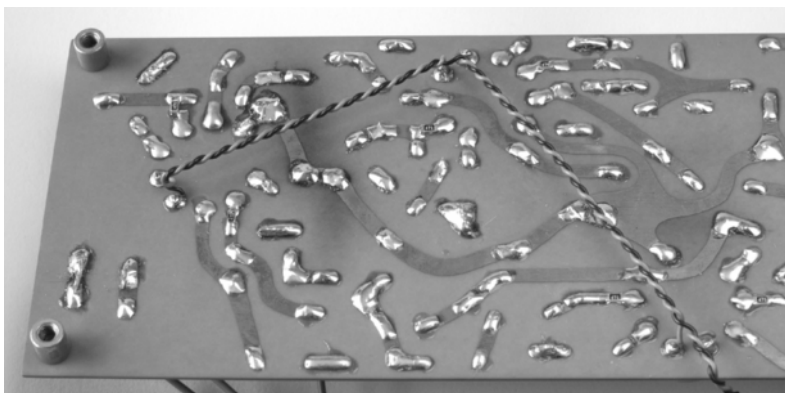

Figure 3.40
- If you put valves on a PCB, don't even attempt to do heater wiring using PCB tracks, it makes layout of the audio almost impossible, and heater wiring is far better done afterwards with twisted pair spaced away from the board so that it rests snugly against the chassis (see Figure 3.40).